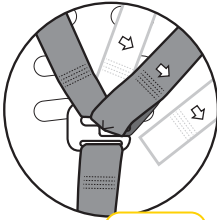
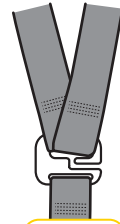

Figure 3
Figure 2
**Step 4:** Thread each shoulder harness strap back onto the “G” connecting plate through the gate (see Figure 3). The shoulder harness straps are connected to the “G” connecting plate (see Figure 2).
**Step 4:** Pull to tighten to remove all the slack, from the upper anchorage strap. Do not overtighten as this could cause the restraint to lift off the vehicle seat (Refer to Figure 3)